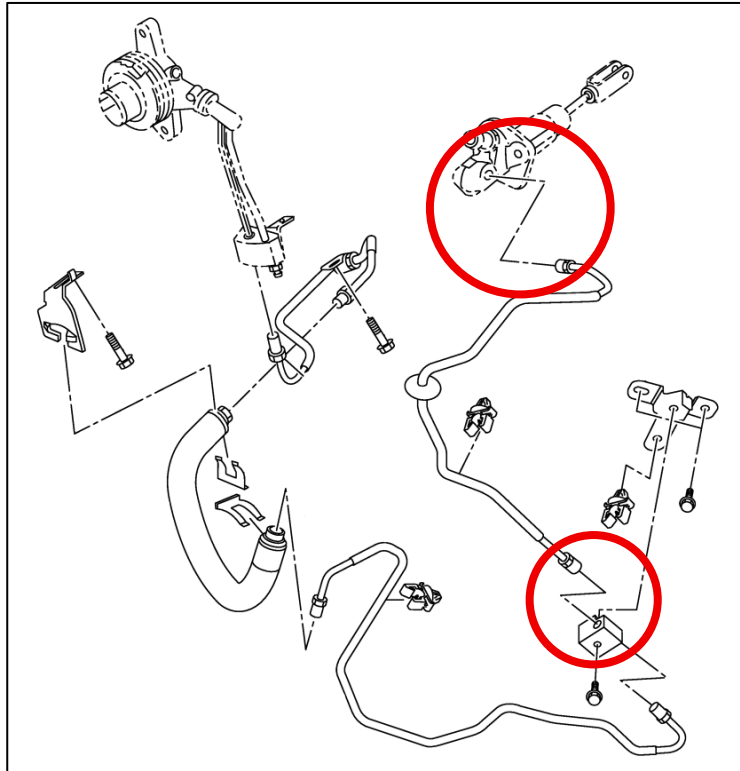

Figure 3
6. Unthread the Clutch Hard Line from the Master Cylinder in the Engine Bay and the Connecting Block. Fluid will leak out, make sure to quickly clean up any spilled fluid as it will damage painted surfaces. *Figure 3.*